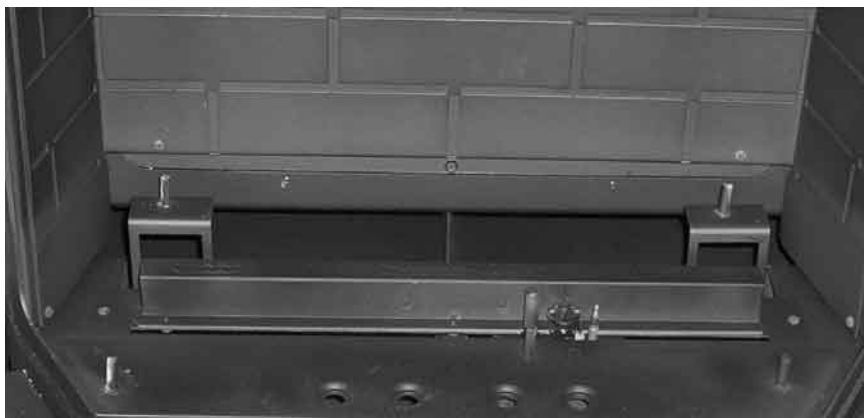

Figure 11: Step 1 of Log Placement.
3. Place the log set into the firebox. Locate each log by seating it down onto the burner tray support pins. Follow Figures 11 to 15 proper log placement.